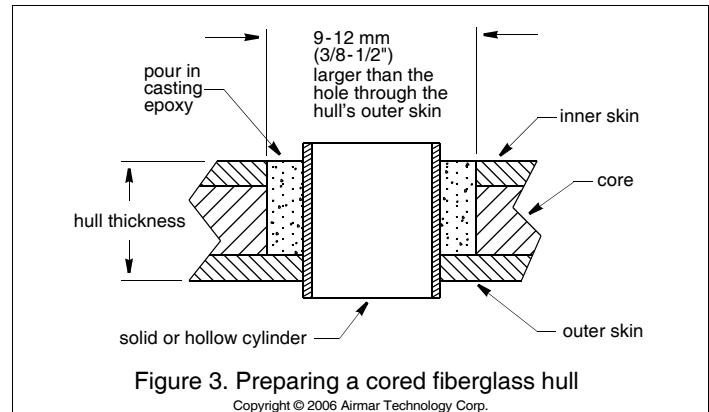

Figure 3. Preparing a cored fiberglass hull
2. Using a 51 mm or 2" hole saw, cut the hole from outside the hull through the *outer skin* only (see Figure 3).